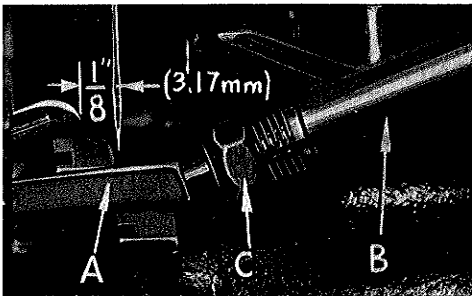
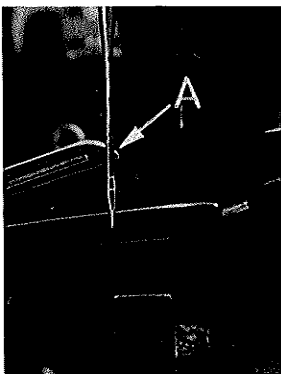

Fig. 6
Fig. 8
At this point, insert lower looper (A, Fig. 6) into bar (B). With lower looper at left end of its stroke, set looper point  $1/8$  inch (3.17 mm) from center of needle (Fig. 6), using looper gauge No. 21225- $1/8$ , on Styles 39500 QS, QT, RT, TJ, TM & TT. On Styles 39500 RD, RL and TK, with lower looper at left end of its stroke, set looper point  $1/16$  inch (1.59 mm) to the left of center line of left needle, using looper gauge No. 21225- $1/16$ . Do not have lower looper deflecting needle or needles. Tighten nut (C). Now assemble differential (front) feed dog.
Now finish lower looper adjustment. As lower looper moves to the right, its point should be set into the needle scarf (A, Fig. 8) until the needle springs forward from rear needle guard surface another .002-.004 inch (.051-.102 mm). Tighten nut (C, Fig. 6) securely.